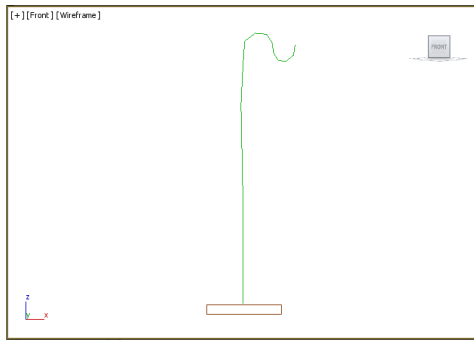

Figure 5-25 The line created
- Click at the center of the top edge of *base* and create a curved shape, as shown in Figure 5-25. Enter **pillar** in the **Name and Color** rollout. Next, right-click to exit the **Line** tool.
To get the perfect shape shown in Figure 5-25, you need to follow the steps given next.